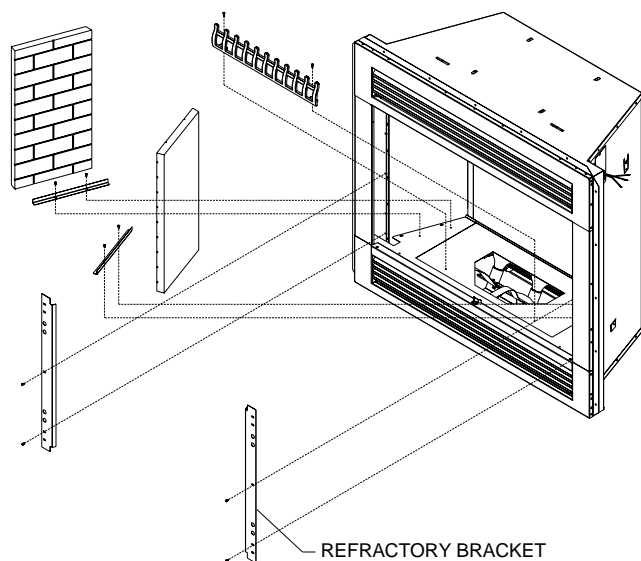

Figure 32 - Accessing Imaging Unit
2. Remove the screens, grate and brick liners. See **Figure 32** and instructions under *Optional Brick Liners*, page 8).